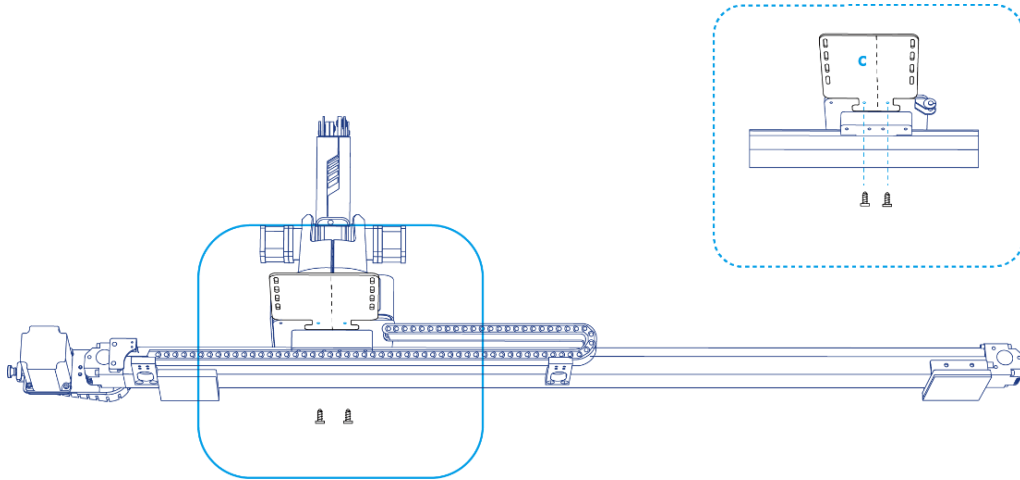

Figure 1.5 Fix plate **c**
1. Fix the plate **c** on the plate **a** with two M3*8 hexagon socket head cap screws, as shown in Figure 1.5.